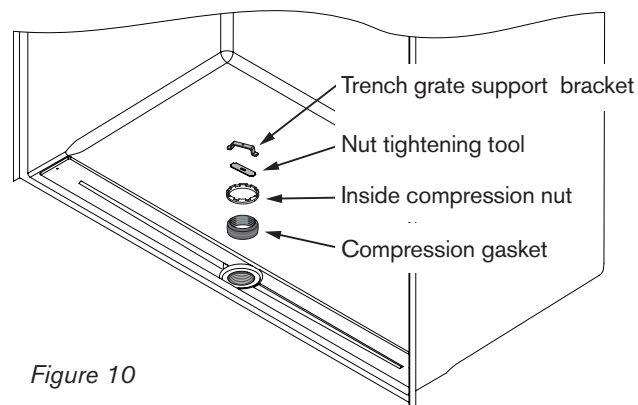

Figure 10
- 16 FINISH DRAIN INSTALLATION:** Slide inside compression gasket into drain body and slip over pipe. **Make sure beveled end of inside compression gasket is facing up and flush with pipe surface.** (Figure 10)